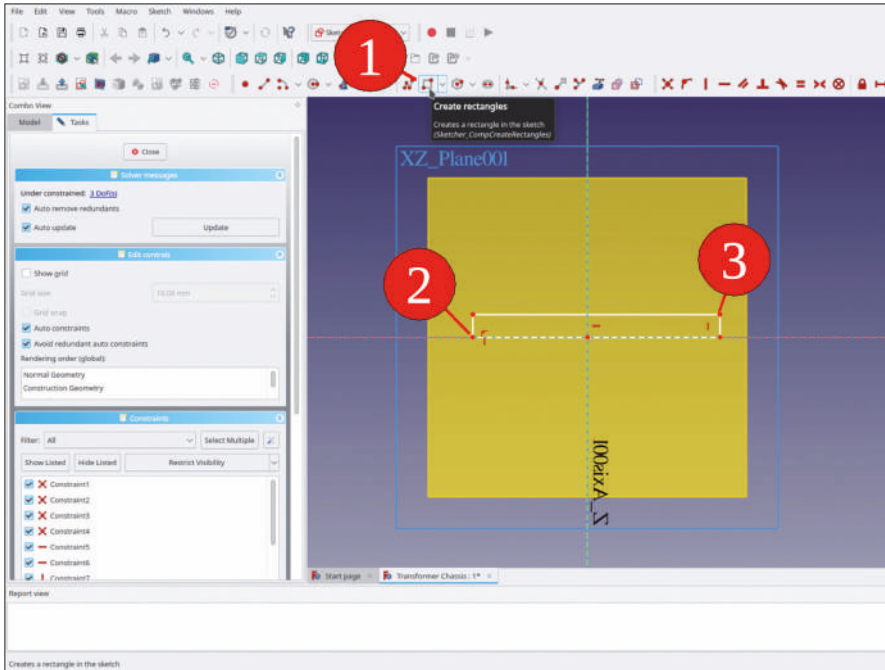

Figure 9-50
9. Sketch a rectangle that is attached to the X-axis (Figure 9-50).